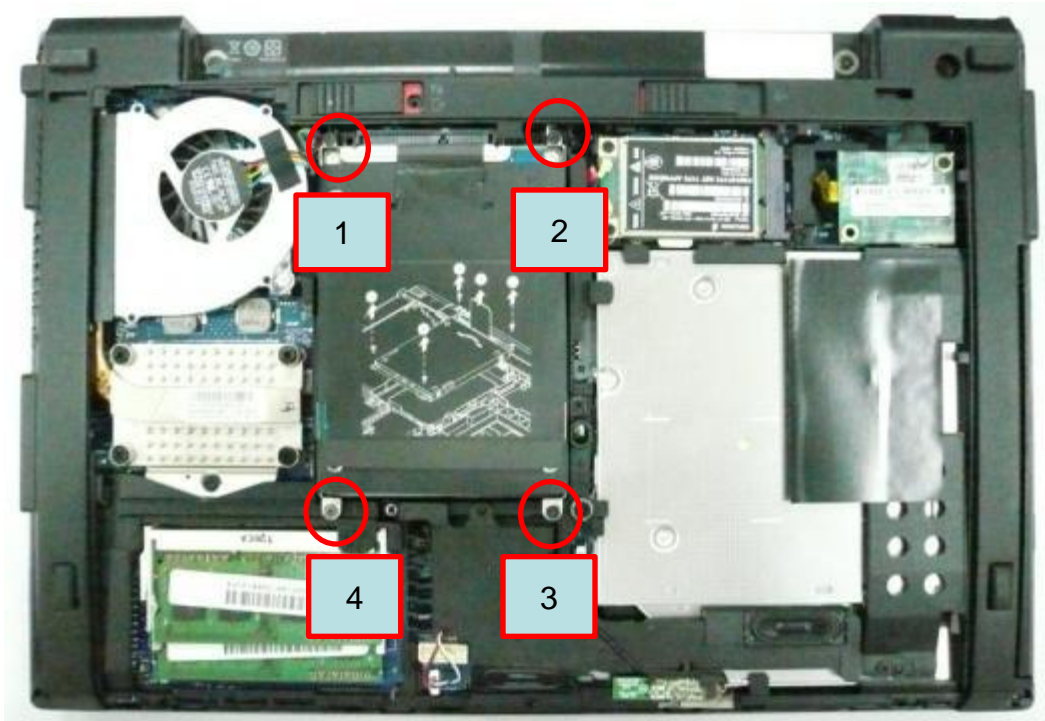

Fig.1
1. Loosen HDD set screw * 4. (Fig.1)